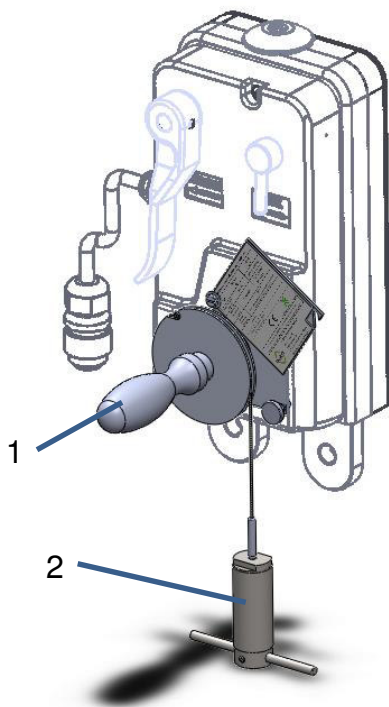

Figure 4: Components of the test equipment
The test equipment consists of a rotating sheave (1) and a pulling device (2), (refer to figure 4) that can be set up on the centrifugal assembly of the OSL-T after opening the cover.